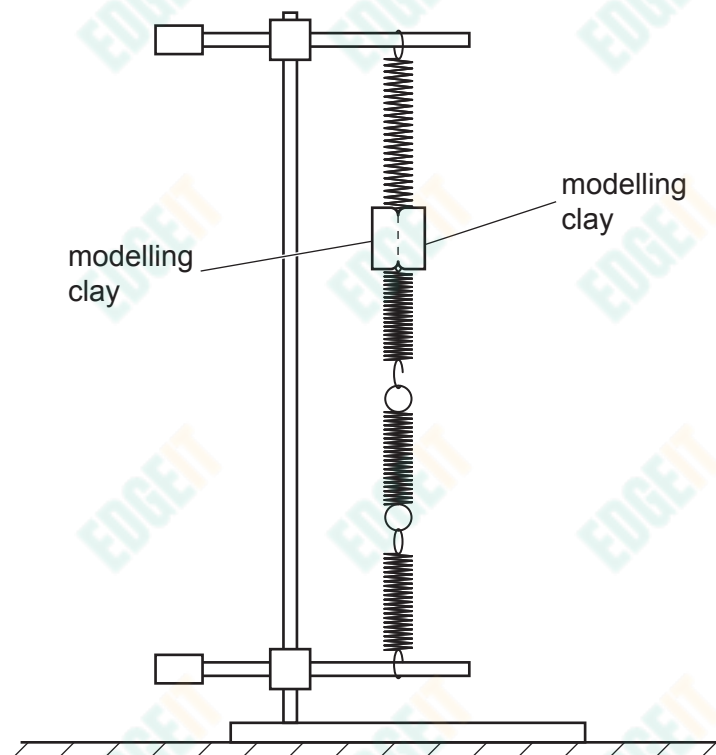

Fig. 2.2
- Reverse the two halves and then press them together firmly around the joint between the first and second springs, as shown in Fig. 2.2.